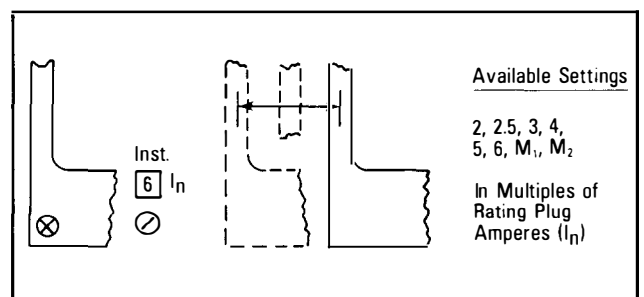

Fig. 4.5 Instantaneous Current Pickup Settings
As illustrated in Fig. 4.5, eight (8) available settings range from 2 to 6 (I_N) with two variable settings M1 and M2. These variable settings depend upon the type of circuit breaker in which the trip unit is installed. Specific information on these settings is given in the supplemental instruction leaflet referenced in Sections 9.1 and 9.2 that is supplied with the circuit breaker. Spe-